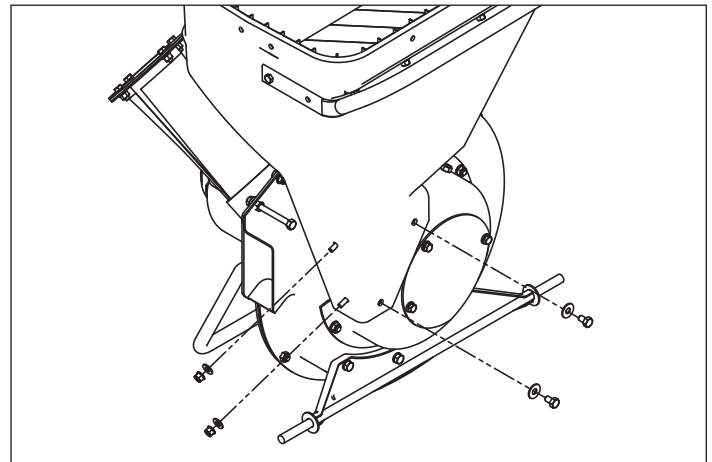

FIGURE 2 - Attaching the Hopper
2. Secure the hopper to the rotor housing using two 5/16 x 1/2 hex head bolts, two 5/16 flat washers. Do not tighten hardware at this time. **SEE FIGURE 2**